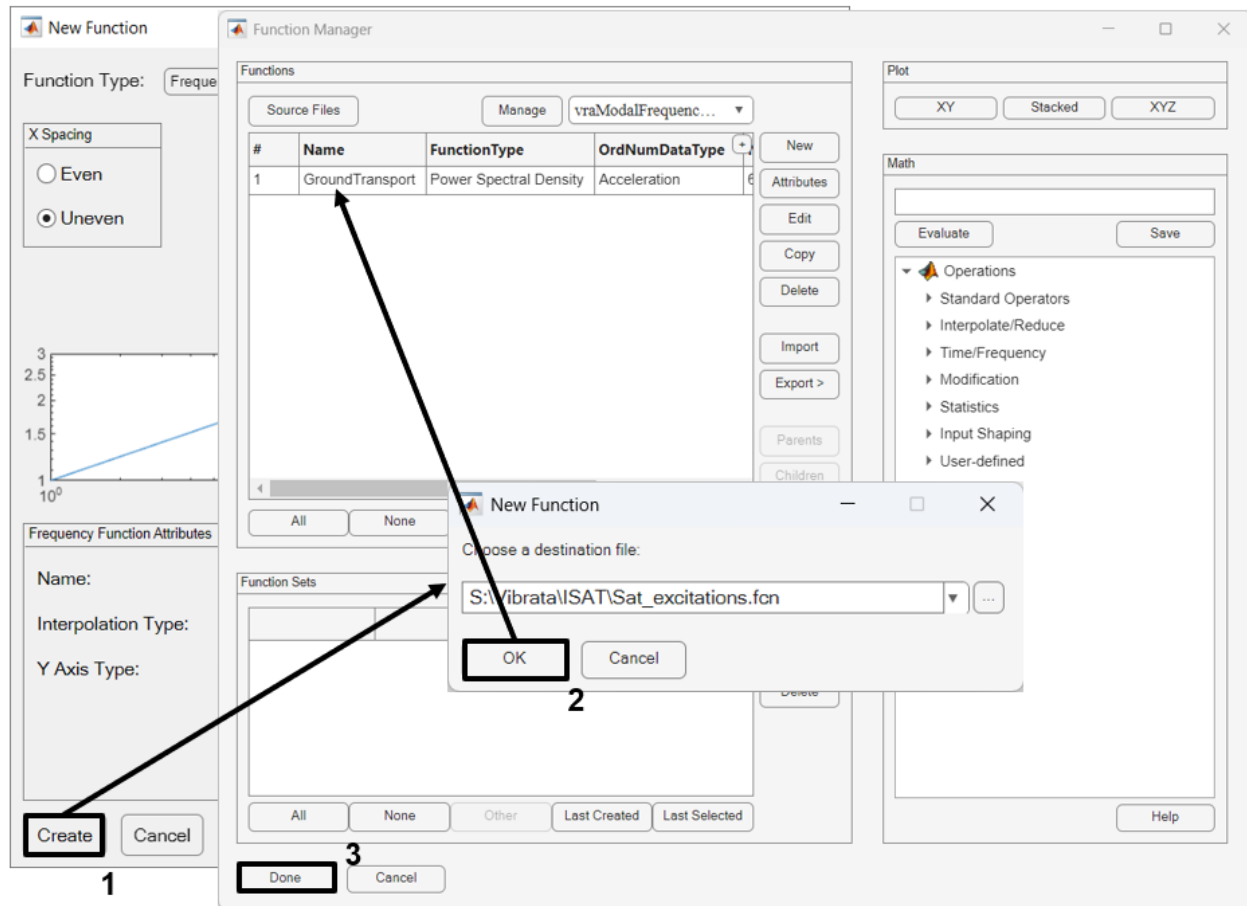

Figure 4-40. Create and save the function, and finish by clicking **Done**.
- When all the data and attributes are set correctly, click **Create** on the *New Function* dialog and save the function as shown in Figure 4-40. The new function will appear in the main Function Manager dialog, ready for use in the Vibrata events you will create in the following examples. Click **Done** to return to the Event Manager.